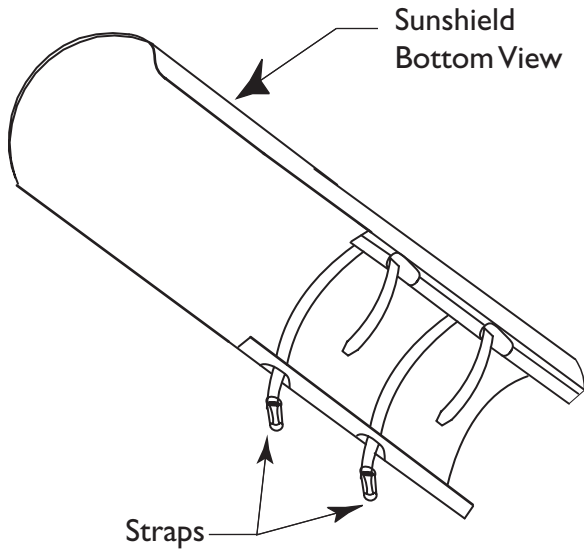

Figure 1 Assembling the Sunshield
1. Insert both straps through the holes in the sunshield. See **Figure 1**.